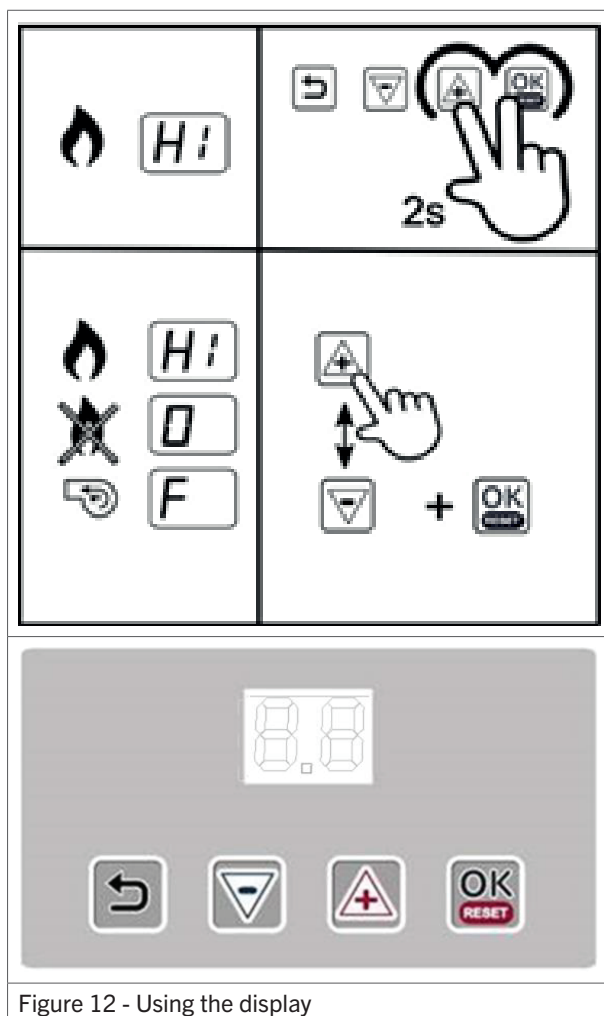

Figure 12 - Using the display
1. Press and hold the **Return** and (–) button for a few seconds (figure 12). The display will alternate between Lo and St. This means the heater will start up in Low fire.
2. Press the (+) and (–) buttons to toggle between Low and High fire (figure 12).